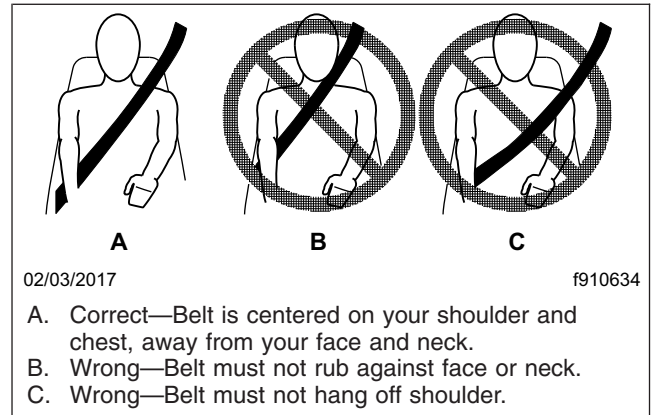

Fig. 6.10, Proper Shoulder Strap Fit
5. Position the shoulder strap diagonally across your chest with the adjustable D-loop bracket (if equipped). The shoulder strap must be centered on your shoulder and chest, away from your face and neck. See Fig. 6.10. If desired, engage the Komfort Latch or Sliding Komfort Latch as follows.
5. Position the shoulder strap diagonally across your chest with the adjustable D-loop bracket (if equipped). The shoulder strap must be centered on your shoulder and chest, away from your face and neck. See **Fig. 6.10**.